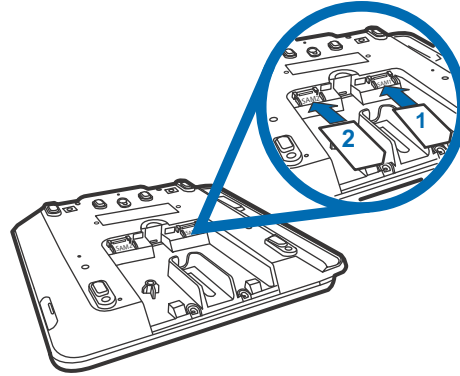

Figure 7 MSAM Insertion
- 4 Insert the MSAM cards. Carefully slide the cards one at a time into the slots until fully inserted. The correct orientation of the MSAM card is as indicated in the figure 7.